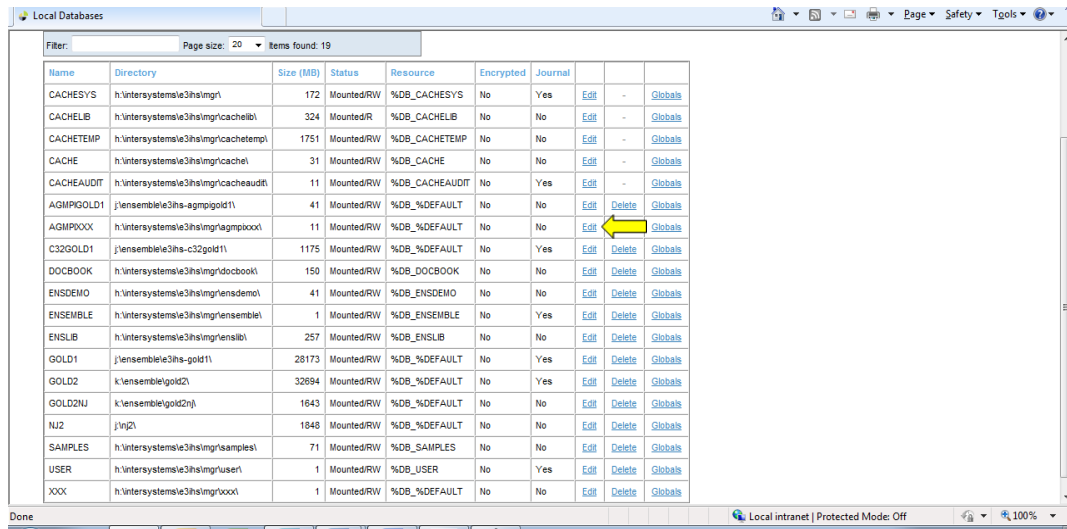

Figure 4-9: Editing the AGMPIxxx database from the **Local Databases** page
3. On the **Local Databases** page, locate the AGMPIxxx database in the list and click **Edit** to open the **Database Properties** page, as shown in Figure 4-9.